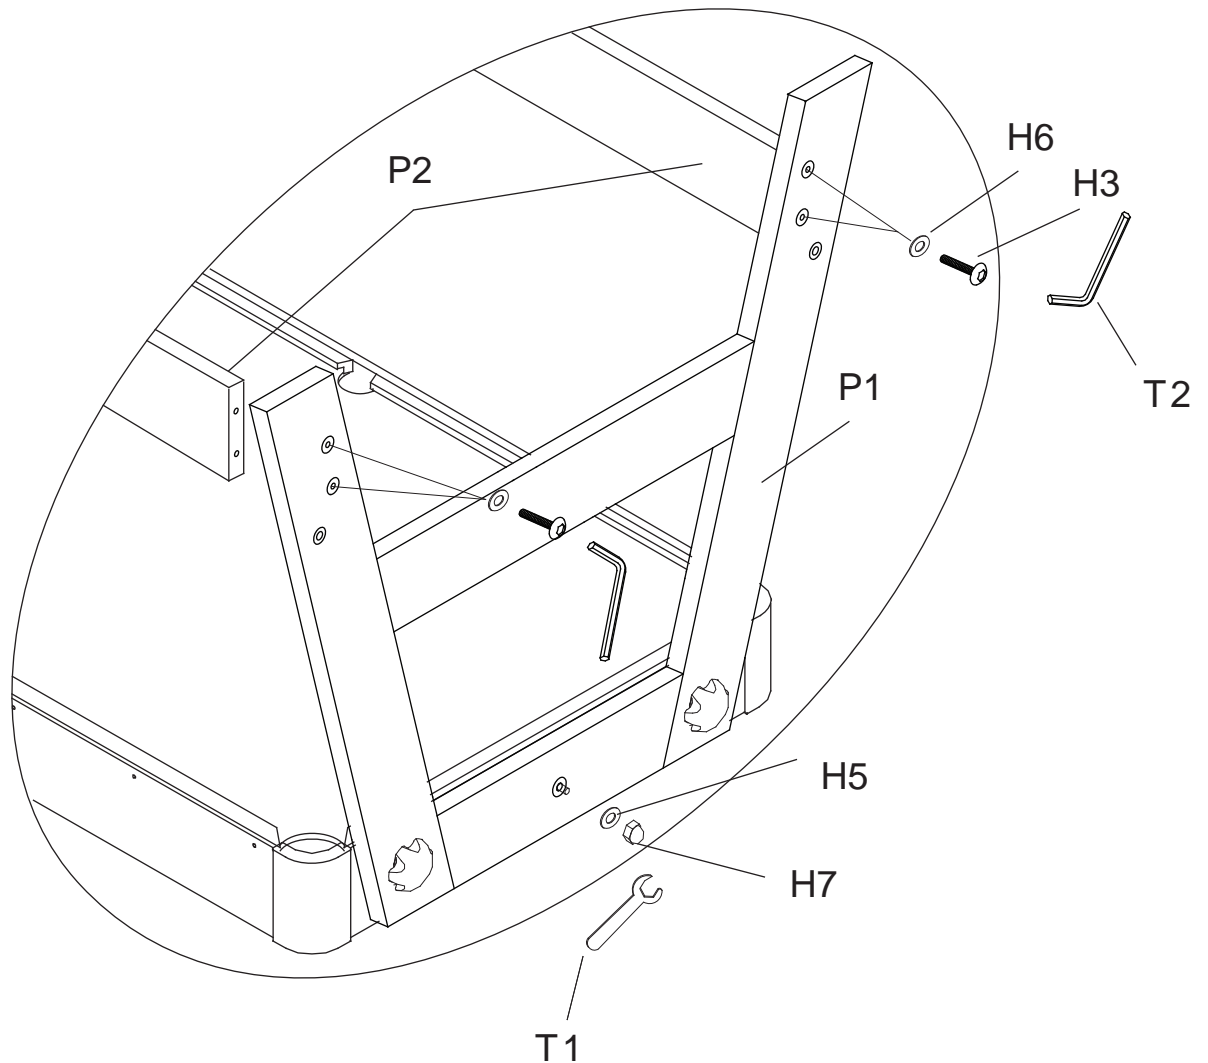

Figure 3
3. Invert Leg Panel P1 and slide the panel onto Shoulder Bolt H10 as shown in Figure 3. To secure the Leg Panel, place M8 Washer H5 with an Acorn Nut H7 onto the shoulder bolt and tighten with wrench T1. Do not over tighten this nut as this is a Pivot Point.
4. With the help of another adult, Place side panel P2 between leg panels using washers H6 and bolts H3 tighten with allen wrench T2 as shown in Figure 3.